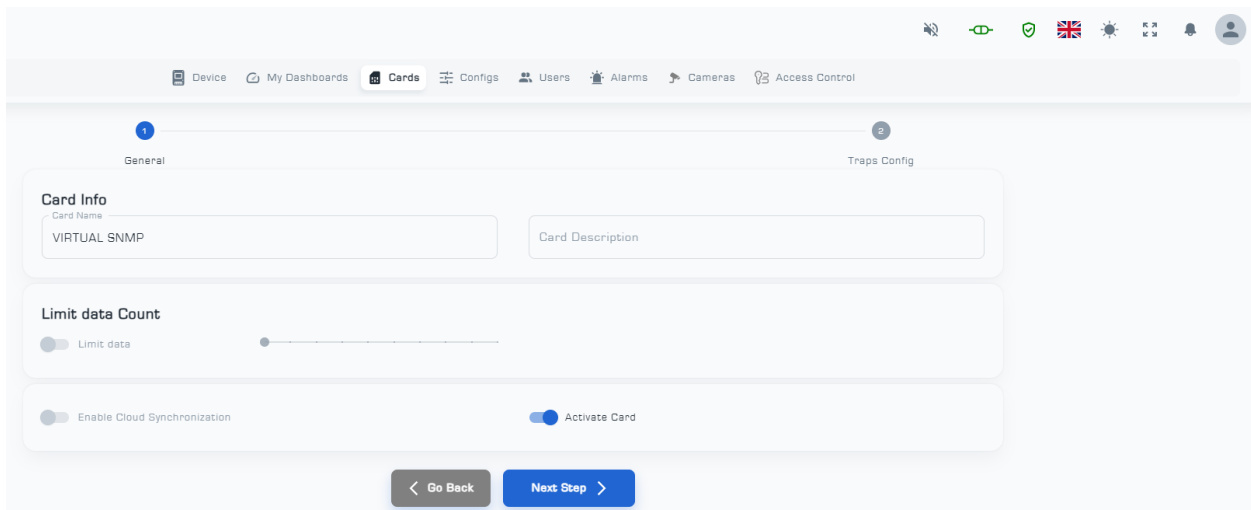

Figure 30: First page of settings on the virtual card
(3) Fill in the 'Card Name' and 'Card Description'1 fields (Figure 30).
(4) Click on 'Next Step' to continue the configuration (Figure 30).